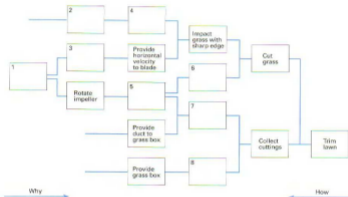

Fig. 2 Functional Analysis System Technique (FAST) diagram
- 15 The designer's goal is to get it right first time. To do this a design process must be used which is effective at producing a good design. An important tool in the design process is the Functional Analysis System Technique (FAST) diagram. This enables the designer to understand the functional relationships of the system being designed. The example illustrated (Fig. 2) shows the